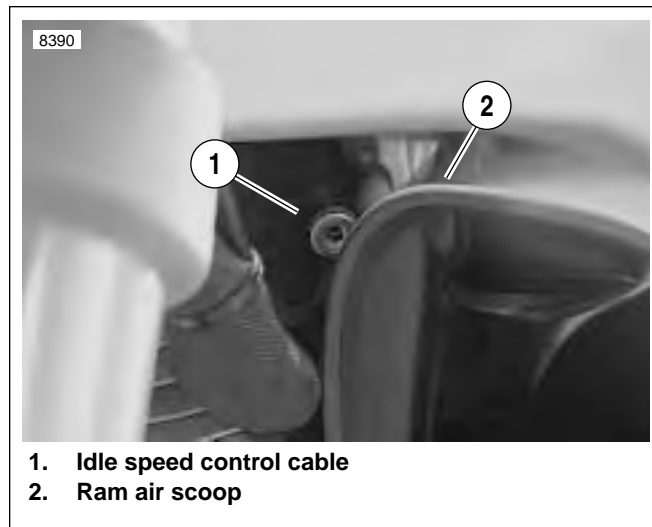

Figure 4-27. Idle Adjustment Cable
See Figure 4-27. The idle speed control cable (1) is located on the left side of the vehicle between the front cylinder head and the ram air scoop assembly (2). Idle speeds are listed in 4.1 SPECIFICATIONS. A 3/16 in. allen wrench may be used to turn adjuster knob.